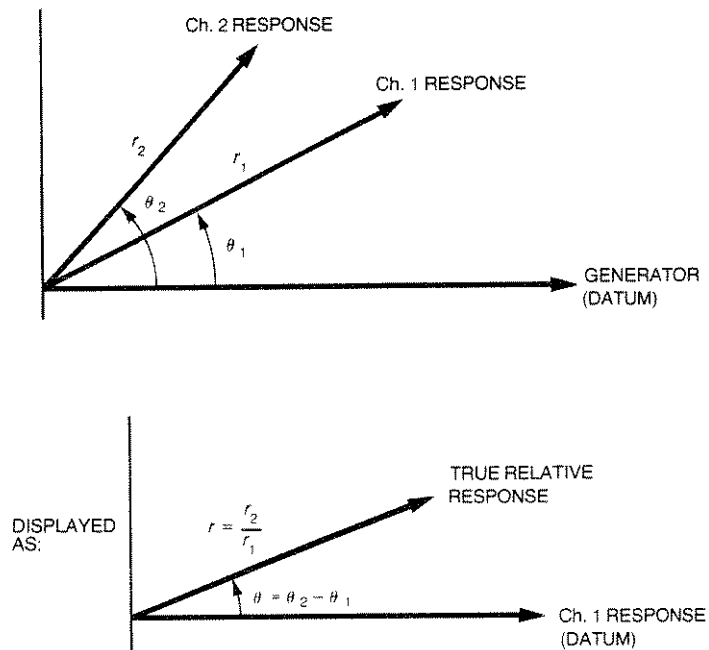

Fig. 1.4 Point-to-Point Measurements
- b. Point-to-Point measurements (e.g. the response of Ch.2 with respect to Ch.1, in terms of gain and phase shift) as shown in Fig. 1.4: